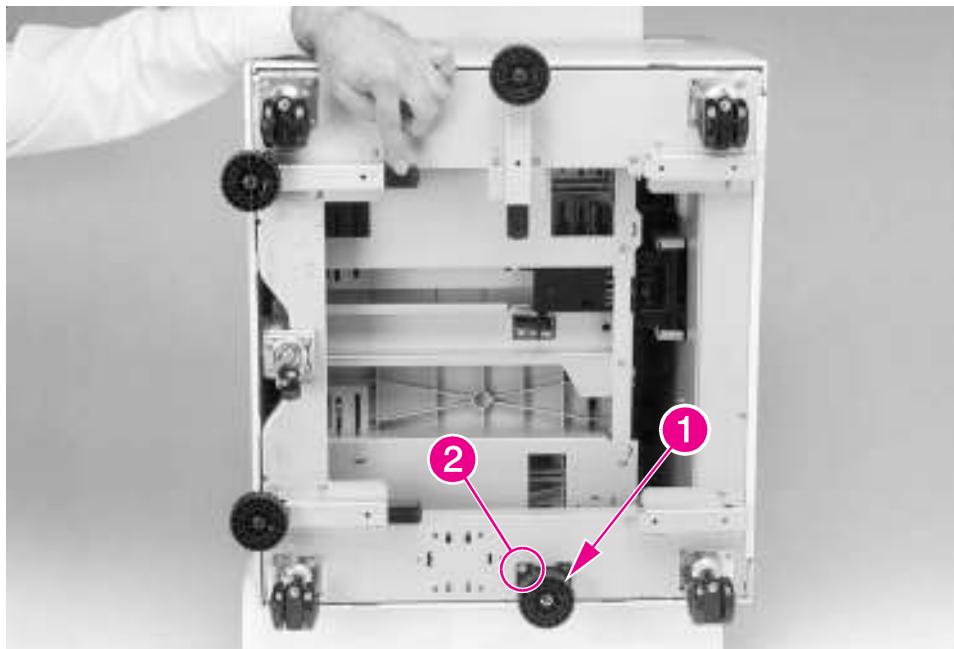

Figure 6-80 2000-sheet Input Tray Adjustable Foot
- 3 Locate the Adjustable Foot (Figure 6-80, callout 1), and remove the 2 screws that secure the Adjustable Foot to the chassis (callout 2).